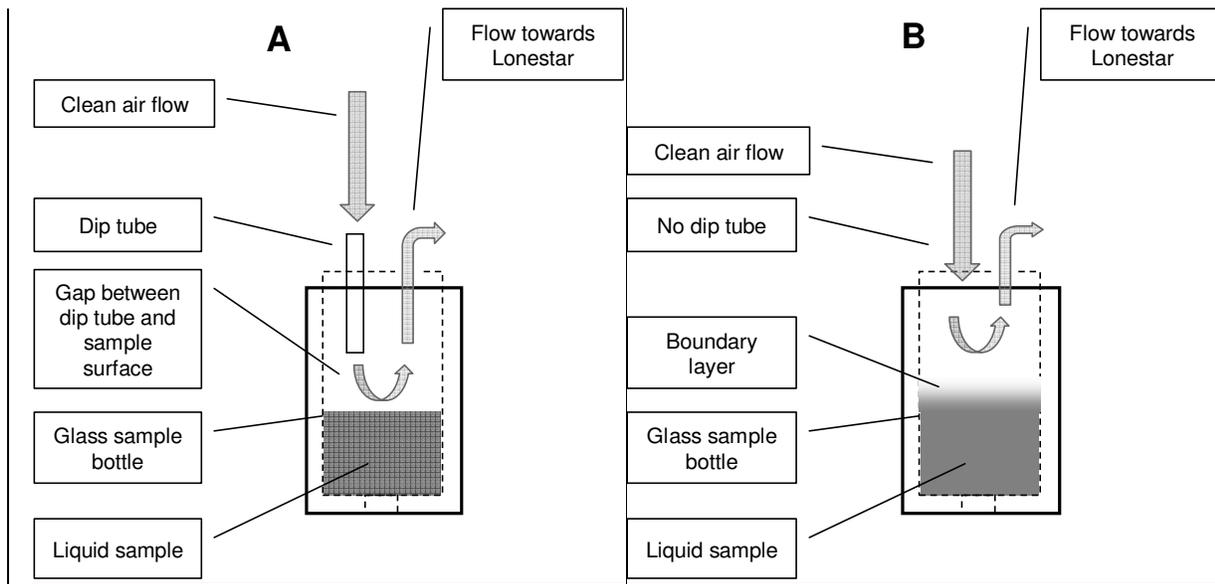

Figure 27: (A) Schematic of sample holder with dip tube in place. (B) Schematic of sample holder without dip tube, showing increased boundary layer
A related factor is the distance between the purge flow inlet and the surface of the sample. This is illustrated in Figure 27. When a dip tube is used to reduce the inlet-surface distance, the flow travels through the entire depth of the headspace (A). Without a dip tube, the flow will take the shortest path to the outlet of the sample vessel (B). Analyte vapour from higher up in the headspace is taken to the Lonestar, while vapour from